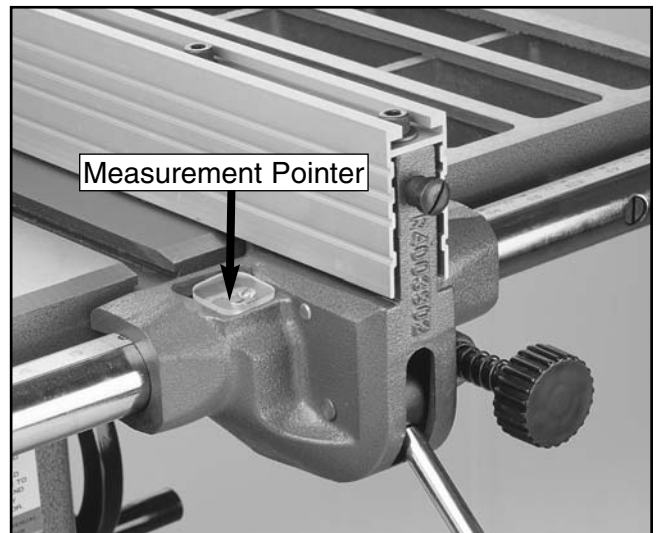

Figure 33. Adjust measurement pointer.
11. Once the fence is adjusted, check the measurement pointer shown in **Figure 33**, and adjust if necessary.